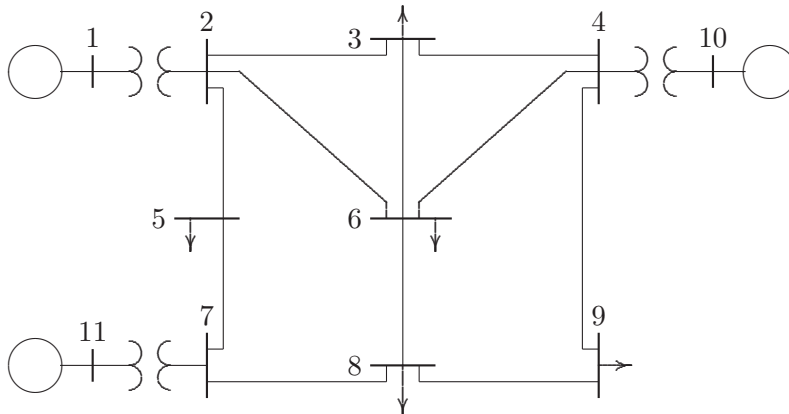

FIGURE 96
11.18. The power system network of an electric company is shown in Figure 96.